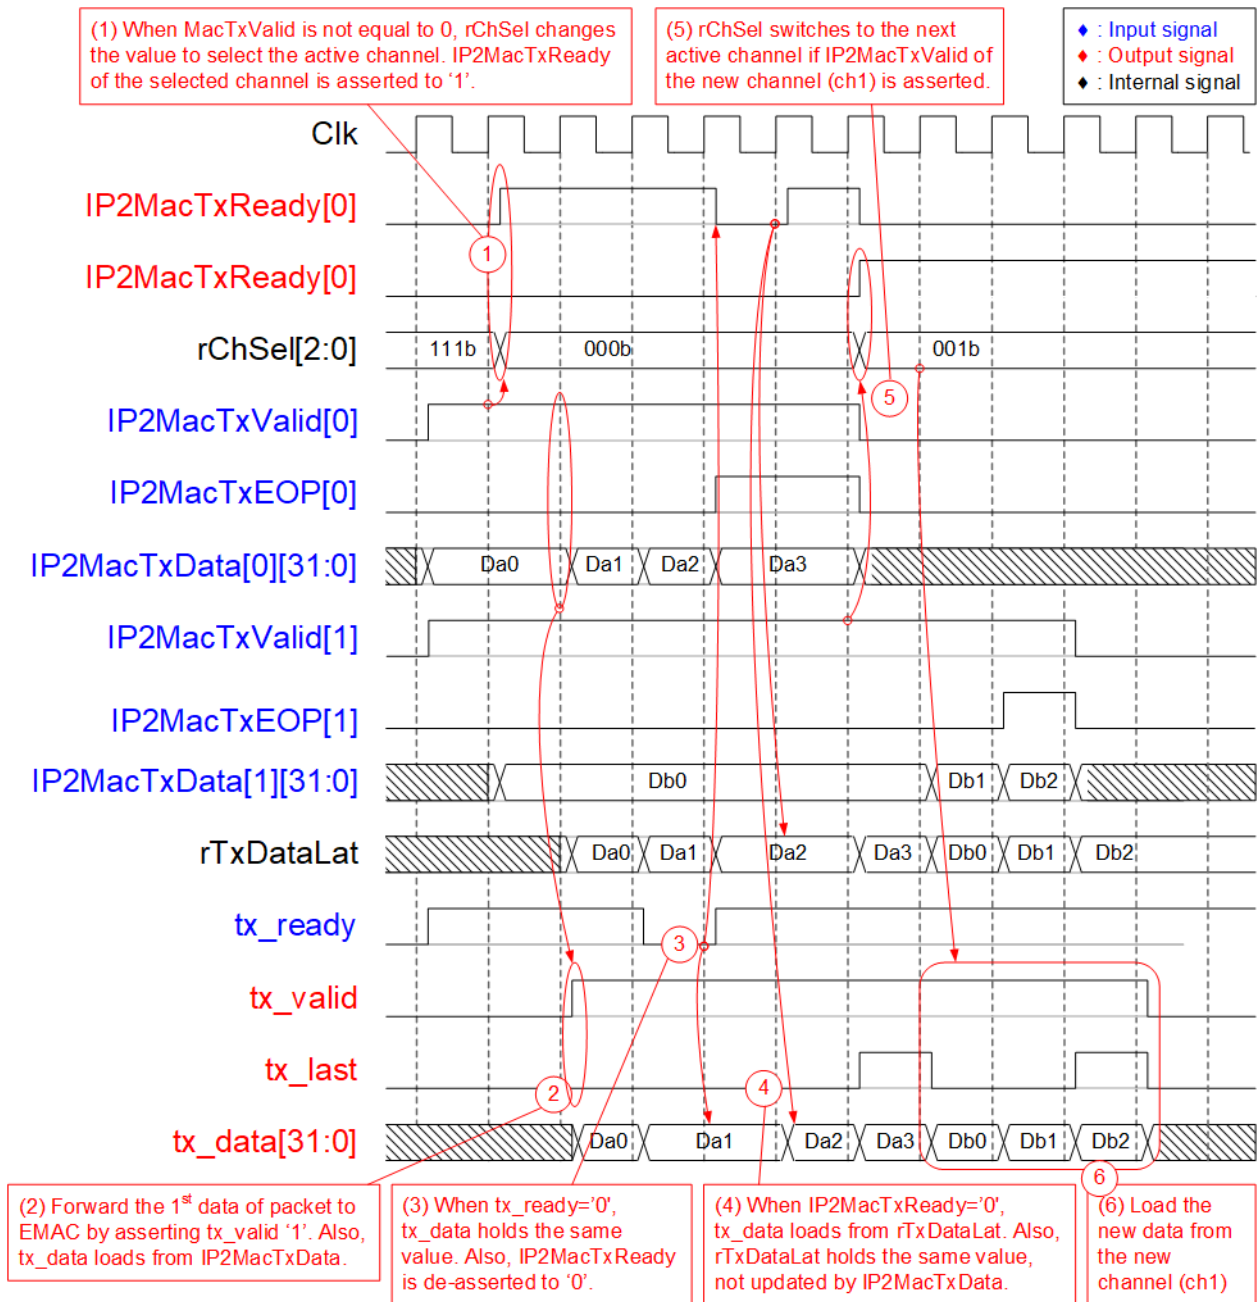

Figure 2-2 TxEMACMux8to1
The core signal inside those modules is rChSel that is applied to select one active TOE10GLL-IPs module from eight modules. Timing diagram of this module is displayed in Figure 2-2.
- 1) If current channel (Ch#7) does not transfer the data and the new channel requests to transfer data by asserting IP2MacTxValid to '1', rChSel (the signal to indicate the active channel) will switch the value to the new channel. In Figure 2-2, there are two channels send the request at the same time. The selected channel will be the nearest channel of the order 0 -> 1 -> 2 ->...->7 -> 0. Therefore, Ch#0 is higher priority than Ch#1 when the current channel is 7. IP2MacTxReady of the selected channel (Ch#0) is asserted to '1' to accept the first data.
- 5) After accepting the final data of a packet from the active channel, the next active channel is scanned. If IP2MacTxValid of remaining channels is asserted, rChSel will update the value following the rule (0 -> 1 -> 2 ->...-> 7 ->0). In Figure 2-2, the next active channel is Ch#1, so rChSel is set to 001b to accept the data from Ch#1.